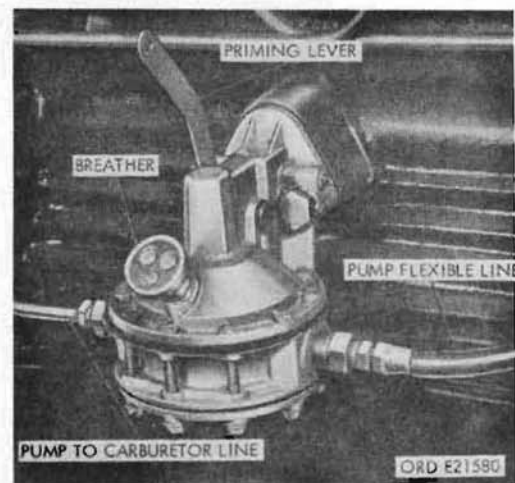

Figure 117. Fuel pump installed
a. Removal (Fig. 117). Turn off the fuel-line shutoff valve (par. 74). Disconnect the fuel-pump flexible line, fuel-pump breather line, when present, and the pump-to-carburetor line at the fuel pump. Remove the pump and discard the gasket.
b. Installation (Fig. 117). Position the pump on the mounting boss on the engine, using a new gasket. Secure the pump with two 85,000-psi yield strength capscrews and lockwashers. Connect the flexible line, fuel-pump breather line, and pump-to-carburetor line at the fuel pump. Turn on the fuel-line shutoff valve.